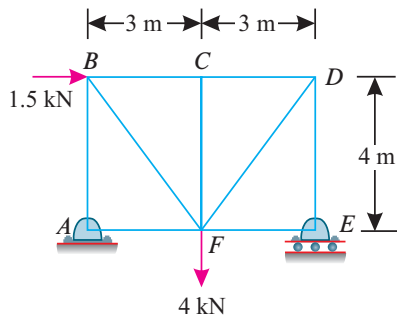

Fig. 14.55.
1. A truss shown in Fig. 14.55 is subjected to two point loads at *B* and *F*. Find the forces in all the members of the truss and tabulate the results.